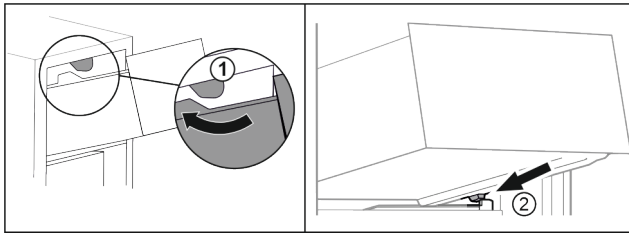

Fig. 112
- ▶ Guide drawer around the upper stoppers. Fig. 112 (1)
- ▶ Place drawer at an angle behind the lower stoppers onto moulded rib. Fig. 112 (2)